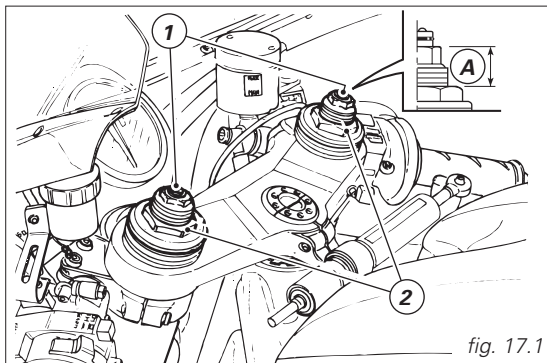

fig. 17.1
- 1) (fig. 17.1) to adjust rebound damping;
- 2) (fig. 17.1) to adjust inner springs preload;
Preload setting range (A, fig. 17.1) is from 25 to 10 mm.